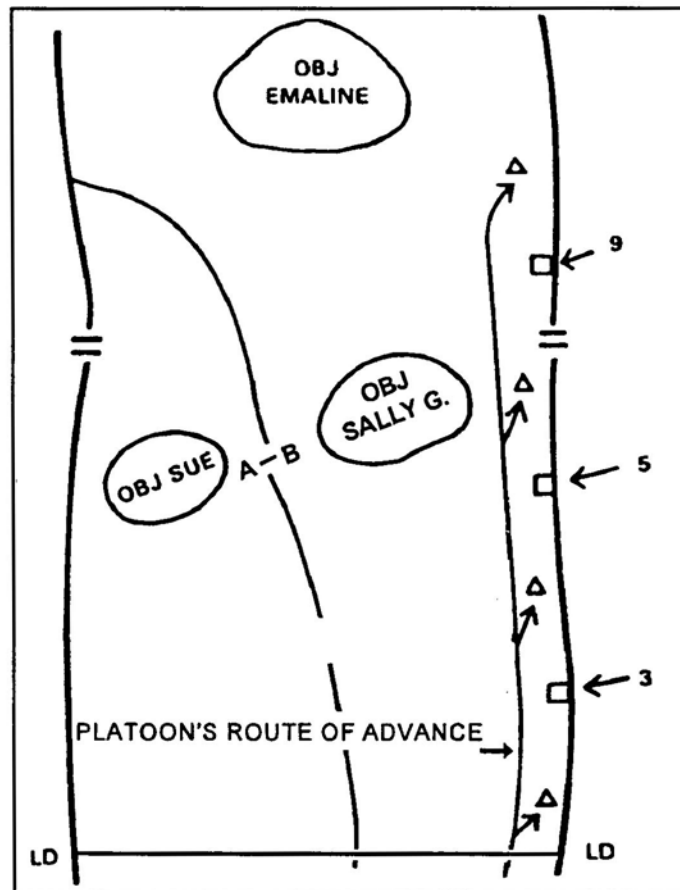

Figure 1. Selecting OPs.
- c. In the situation shown in Figure 1, a platoon at 100 percent strength has the mission of screening the right flank for a battalion's attack.
- (1) OPs were selected and occupied using the previously discussed considerations. Four OPs were found to be sufficient with no elements attached to the platoon. Space does not permit successive screen lines.
- (2) The squads occupy their OPs as the lead elements of the attacking team pass them. Coordination between the platoon leader and the attacking team commander ensures that the routes into the OPs do not interfere with the scheme of maneuver of the attacking force.
- (3) As each squad approaches the area assigned as its OP, it stops in a covered and concealed position and conducts a dismounted visual reconnaissance of the area, as if it were moving by bounding overwatch. The squad leader and the observer from his vehicle then conduct a quick security check of the OP area and select the exact site for the OP. The fire team leader brings both vehicles forward to a safe and secure, covered and concealed defilade position. The fire team leader posts his observer as security, instructs the drivers to camouflage the vehicles, and moves forward to the squad leader's position with the observation devices and a radio. Once the OP is set in, the squad leader reports to the platoon leader by radio, checks the overall condition of his OP, and prepares to conduct his portion of the contact patrolling.
- (4) Once all four OPs have been manned, an appropriate report is sent to the battalion CP. The platoon leader has initially chosen to collocate with the squad occupying the third OP from the LD because it covers the most likely avenue of approach into the flanks. The platoon sergeant occupies a position near the LD to relay all transmissions to battalion.
- (5) At each OP, two persons observe at any one time. If the operation continues into the night, when security requires 100 percent participation, two people are permitted to sleep. The remaining two conduct the patrol. Patrols make contact at points 3 and 9 at even hours and at point 5 at odd hours. All patrols are dismounted initially, and one patrol member carries an M60 machine gun.
- (6) The two people manning the OP use an AN/GRC-160 in the AN/PRC-77 mode of communications, and all vehicles remain on the reverse slope in covered and concealed positions. One of the two observers continually checks the area with the naked eye for any movement. The other observer systematically checks the same area with binoculars or a starlight scope. The two observers employ teamwork and trade duties periodically.
- (7) Situation reports are submitted to the platoon leader every 30 minutes, or as required, and relayed to the battalion by the platoon sergeant. Before the end of evening nautical twilight (EENT), warning devices are emplaced by the dismounted patrols. Night surveillance devices are used if the platoon is required to remain in position throughout the night.
- (8) If the platoon is operating at reduced strength, its ability to occupy OPs and conduct the required patrolling is severely restricted. Unless observation is limited and patrols are not needed, the reduced-strength platoon must occupy fewer than four OPs.